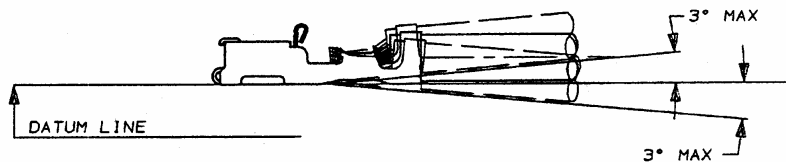

Fig. 2
- (1) The contact, including the cut off tab and burr, after crimping shall not be bent above or below the datum line more than the amount shown in Fig. 2.